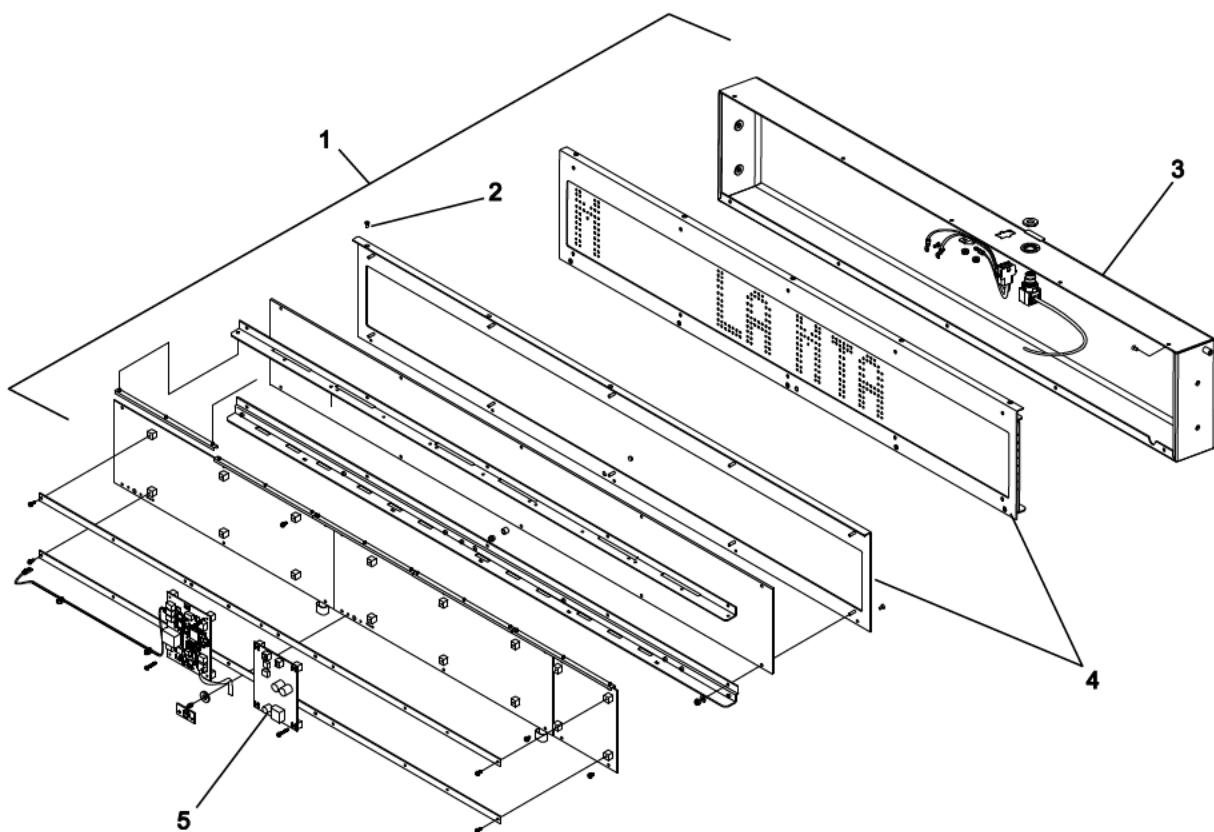

Figure 7-16: Replace Side Destination Sign Power Supply PCB
1. Remove side destination sign assembly (1, Figure 7-16) from its mounted location.
2. Remove ten 6-32 x 5/16 FH Phillips screws (2) that secure the housing assembly (3) to front panel assembly (4).
3. Carefully separate the housing assembly (3) from front panel assembly (4) to access electrical wiring and harnesses.
4. Tag and disconnect electrical wiring connectors from the power supply PCB (5).
5. Remove power supply PCB (5).
6. Install replacement power supply PCB (5) with J1 and J2 connectors upwards.
7. Connect electrical wiring connectors to the power supply PCB (5).
8. Install the housing assembly (3) to the front panel assembly (4) using ten 6-32 x 5/16 FH Phillips screws (2).